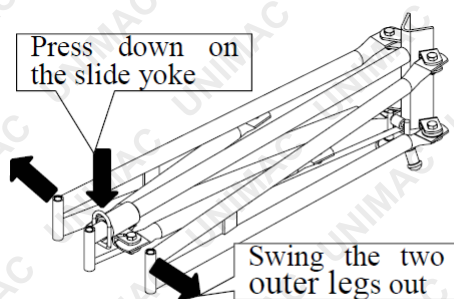

Fig. 2
- Press down on the slide yoke ring. Hold it down while you swing the two outer legs out until the yoke rings snap into the locking hole on the bottom of the slide tube, as shown in Figure 2.